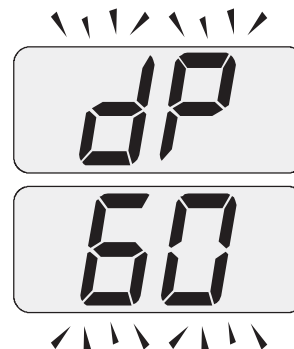

Figure 11.9
- 21 Press further key "G" to vary again the output in chimney sweep mode: when the display shows the letters **dP** that alternate with the heating water temperature value (e.g. 60), the "chimney sweep function" is at maximum output in domestic hot water mode" (Figure 11.9);